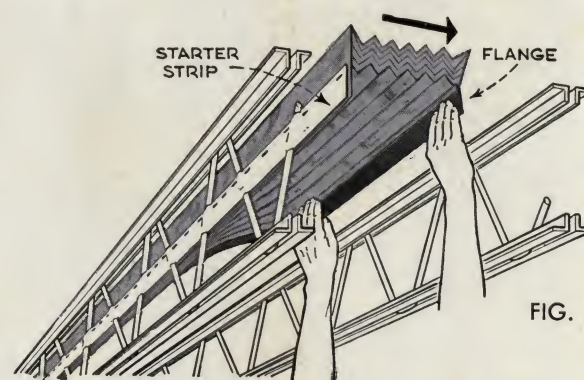

FIG. 2
(B) Open insulation as in Fig. 2.